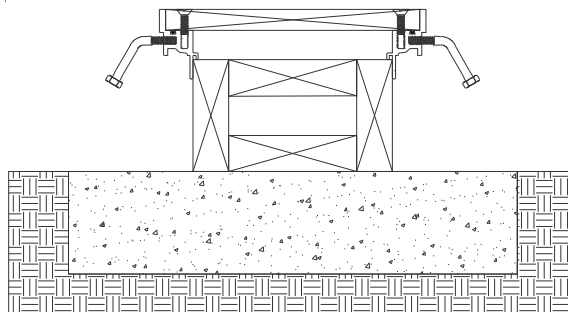

Figure 5
**STEP 8.** Place a temporary wooden cover (plywood is recommended) into the frame, attaching it to the frame as shown in Figure 5. This procedure is recommended to protect the cover plate from concrete splatter during the pouring and finishing of the concrete.